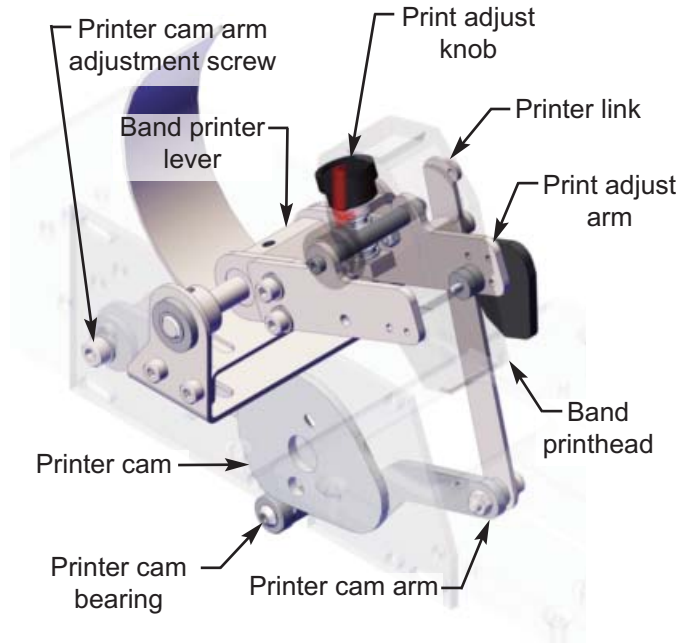

Figure 3.21
U. PRINT FORCE RANGE: Figure 3.21 and 3.22